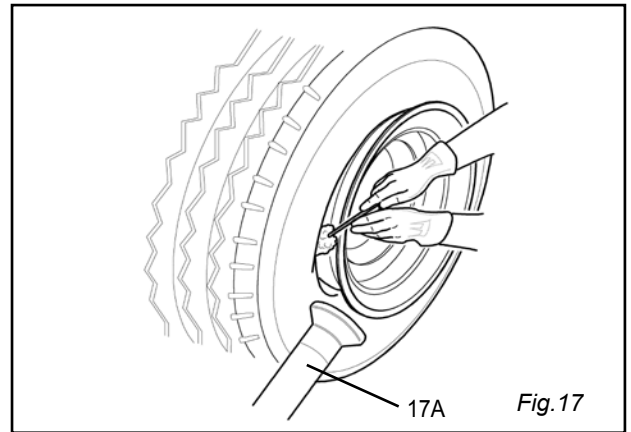

Fig. 17
- 5) Go on until the bead is completely detached.To facilitate the operation, when the tire is turning, grease the bead and the rim edge all around (fig.17)